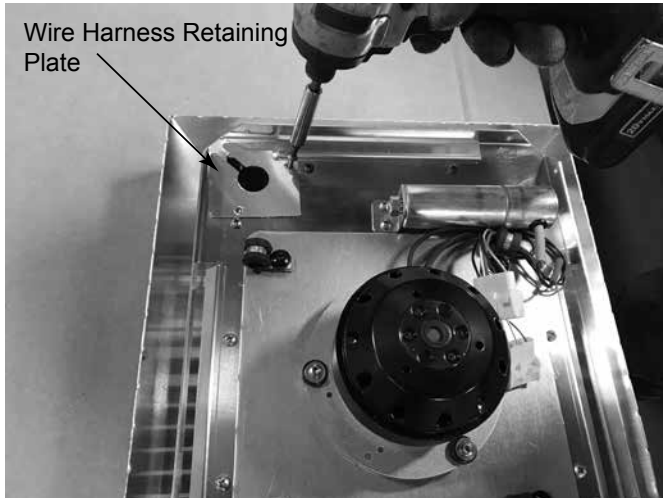

Figure 7.18
- Remove wire harness retaining plate from motor assembly, (2) screws. See Figure 7.18